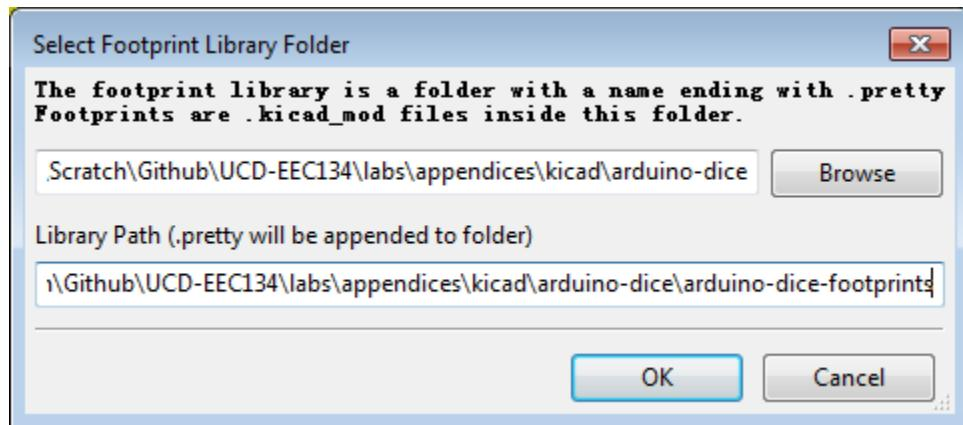
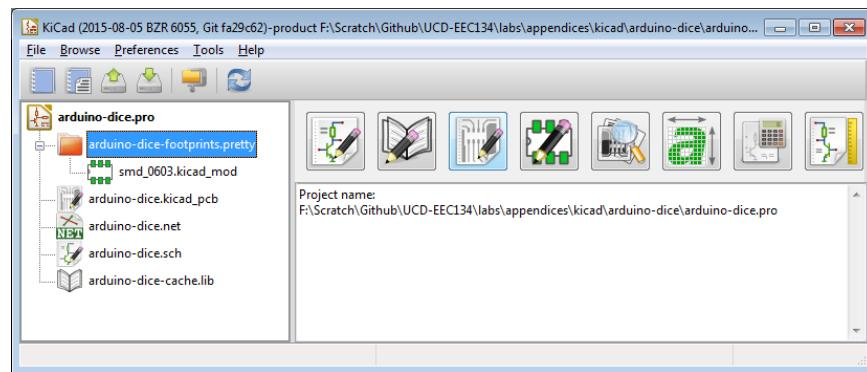

Figure 15: The “Select Footprint Library Folder” dialog box.
Figure 16: The new footprint library is now visible in the project tree.
- We wish to create a new library to contain our newly created footprint. To do this, click the “Create new library and save current module” icon. Set the location and name of the library and click “OK”. The “Library Path” field should contain the full path to your desired library location. In this example, we will create a footprint library with the name “arduino-dice-footprints” (KiCad will automatically add the “.pretty” suffix) under the project folder “...\\arduino-dice”. Fig. 15 shows the proper settings. At this point, a new folder named “arduino-dice-footprints.pretty” should appear in the project tree in the KiCad main window (Fig. 16). Click on the “+” sign will expand the library and show all the footprints in this library; in this case, we only have the “smd_0603” footprint.